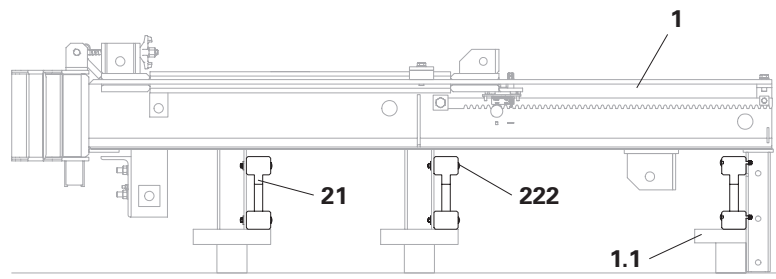

Fig. B4.09
8. Pre-drill Formwork Girder GT 24 (**21**) with $\varnothing 9$ mm and screw on with F.H. Bolts DIN 603 M8 x 100 MU (**222**) onto the platform beam support (**1.1**). (Fig. B4.09)